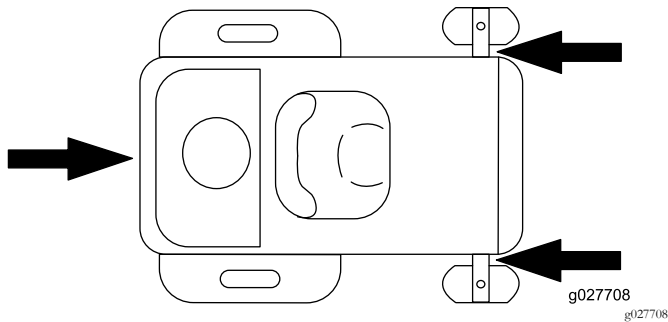

Figure 27
5. Tie down the machine near the front caster wheels and the rear bumper (Figure 27).